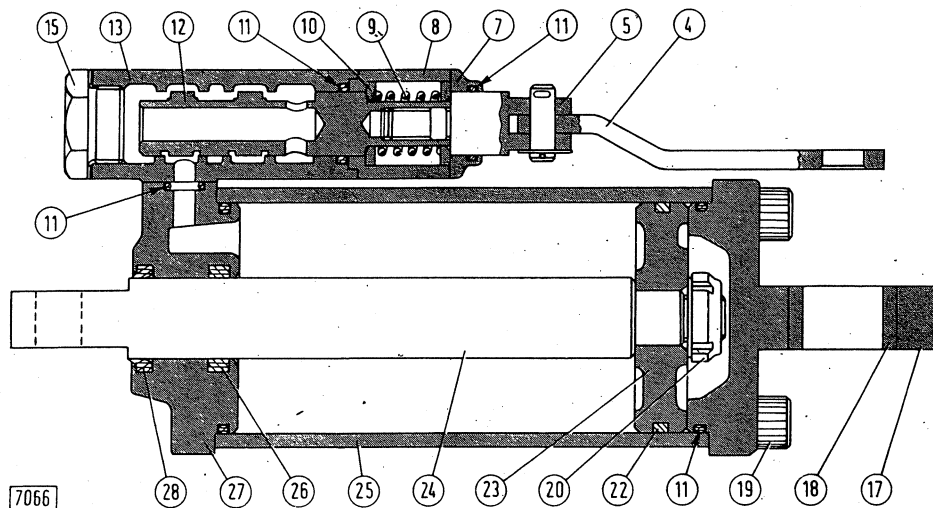

Fig. 3 - Power-assist cylinder section.
Disassemble the control valve by removing the cover screws (7 and 8, Fig. 3) and withdrawing, carefully, the spool (12) and clevis (5).
At assembly, lubricate components and refit them referring to Figs. 3 and 4, and make sure to insert the o-rings, considering that :
The maximum displacement of the valve spool (12, Fig.3) with respect to the valve body depends upon the gap (X_1 and X_2 , Fig. 4) existing between the screws (V_d and V_s) and pin (38). In other words, it is a function of the angular displacement of the lever (35) with respect to the arm (37).